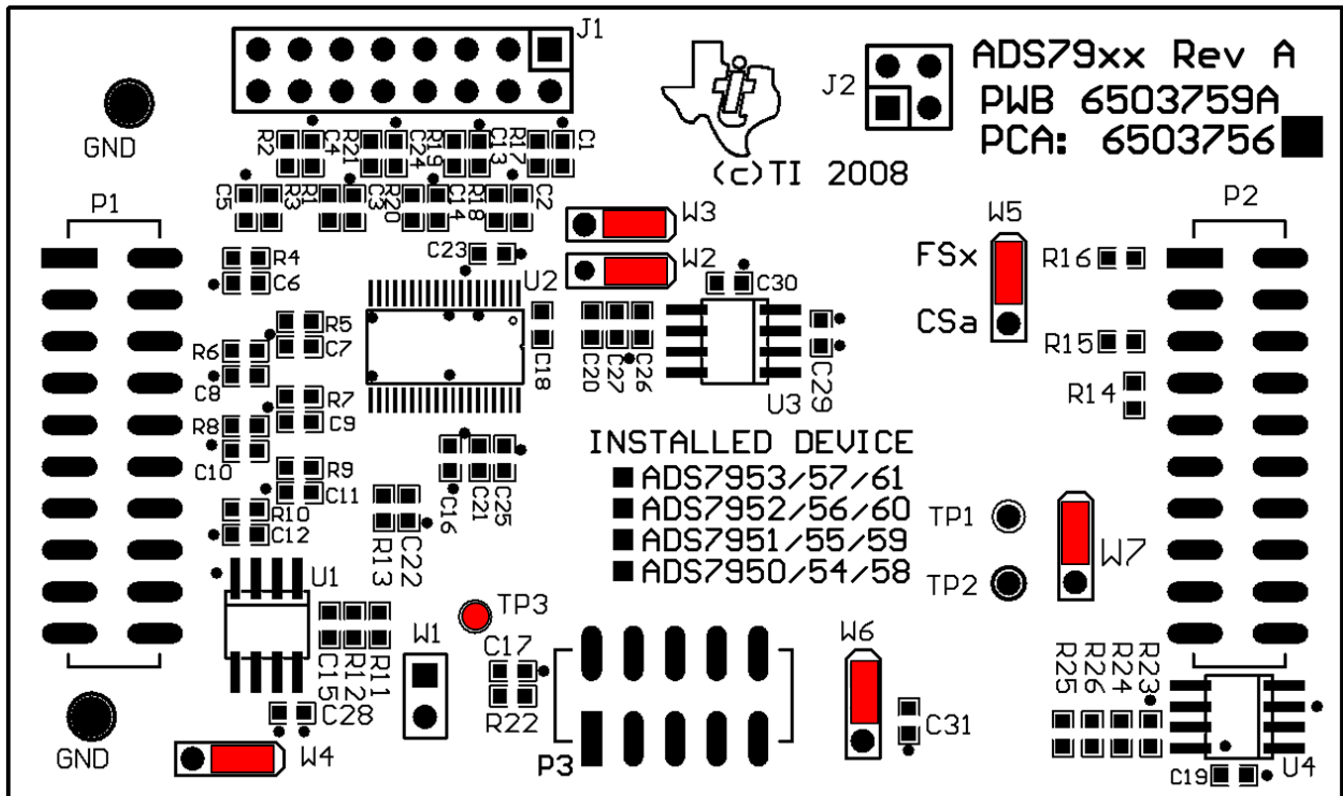

Figure 2. ADS7953EVM Default Jumper Locations
Figure 2 shows the jumpers found on the EVM and the respective factory default conditions for each.
Step 4. Verify the jumpers on the ADS7953EVM are as shown in Figure 2 (note that these settings are the factory-configured settings for the EVM).